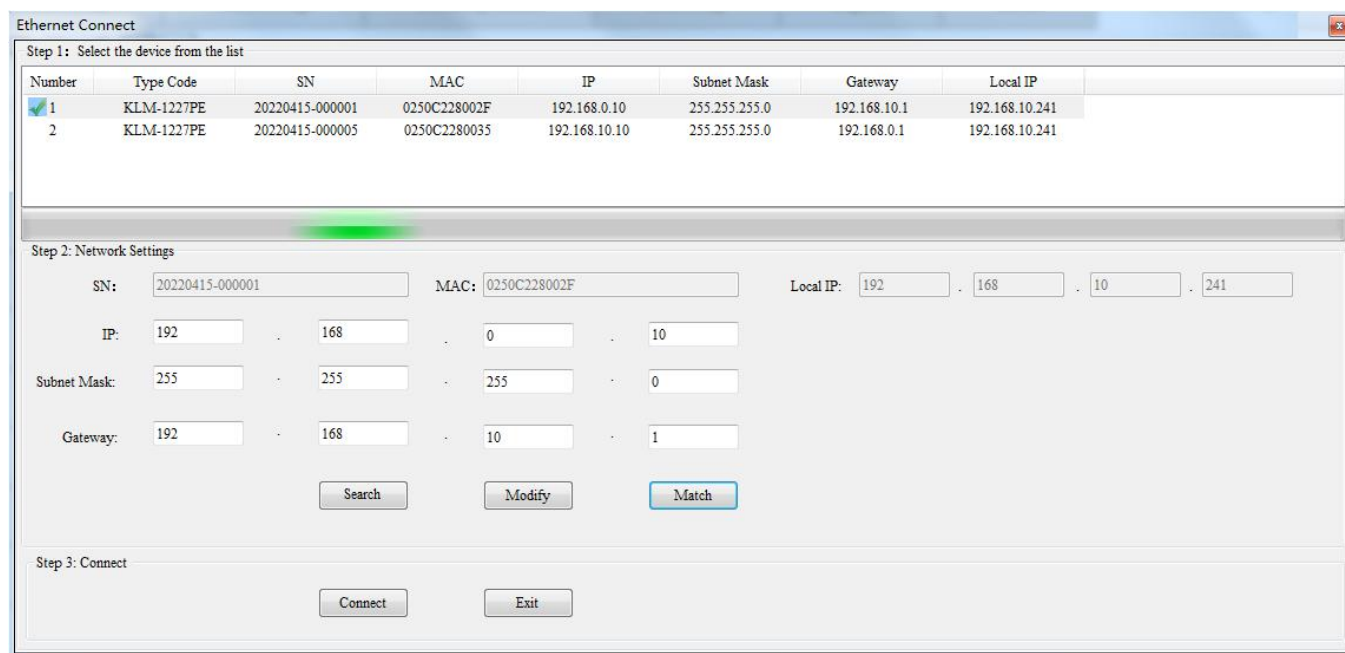

Fig.3.1.21 Automatically match IP address
(1) Click “Match”, the software will automatically assign an IP address to the lidar according to the computer IP, as shown in the Fig.3.1.21 below.